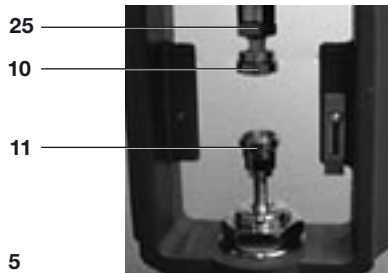

Fig. 5
- Turn off the air supply and allow the actuator to retract fully (see Figure 5).